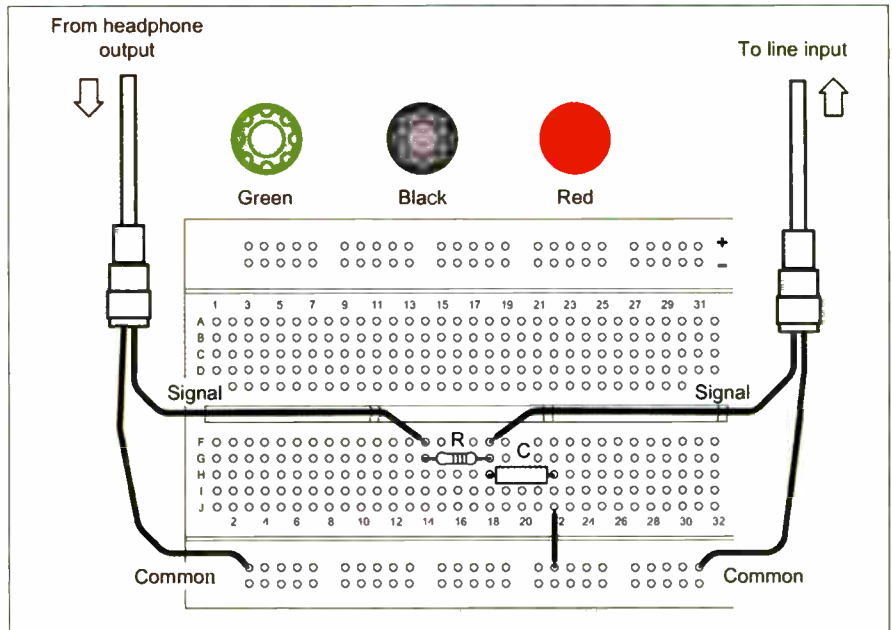

Fig.7.19. Wiring diagram for Practical Investigation 7.1
Wiring diagram: See Fig.7.19
3. Connect the headphone output from your PC via a suitable audio lead (e.g. a lead fitted with a 3.5mm jack plug at one end and a phono socket at the other) to the input of the integrating circuit (two short lengths of insulated wire connected to a phono plug can be useful here, as shown in Fig.7.19).
4. Connect the line input to your PC via another audio lead (e.g. another lead fitted with a 3.5 mm jack at one end and a phono socket at the other) to the output of the integrating circuit (once again, two short lengths of insulated wire connected to a phono plug can be useful here, as shown in Fig. 7.19).